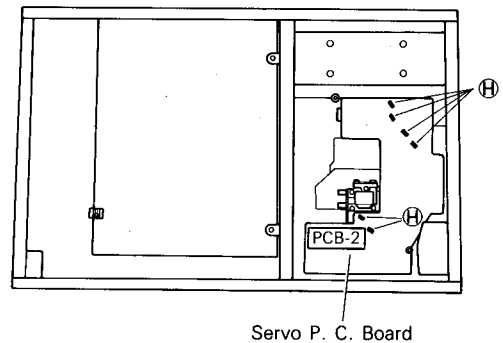

Fig. 5
Remove the hand-soldered circuit, six points (H) on the Servo P. C. Board. (Fig. 5).